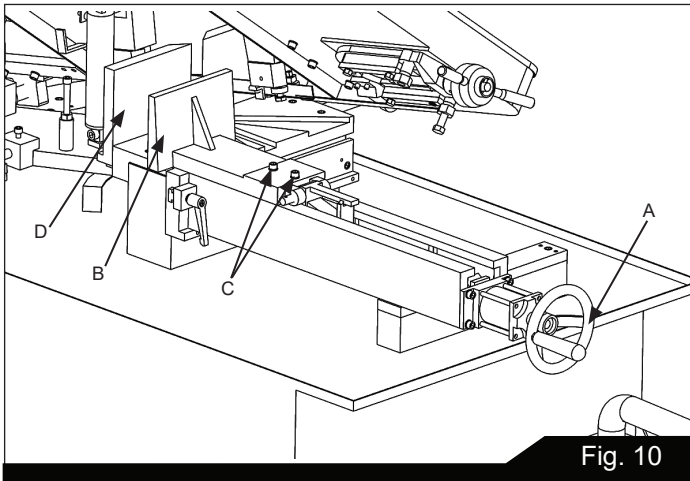

Fig. 10
The workpiece is placed between the vise jaws with the required amount to be cut-off extending out past the blade. To position the moveable vise jaw (B) instantly, simply turn vise handknob (A) Fig. 10, counterclockwise 1/2 turn and move the vise jaw (B) to the desired position.
The vise can be adjusted to cut any angle from 0° to 45° by loosening the two bolts (C) Fig. 10, on each vise jaw. Position the vise jaws to the desired angle and tighten the bolts. It is also necessary, when angle cutting, to move the right hand vise jaw (D) to the left until the workpiece and right hand vise jaw clears the right hand guide arm.